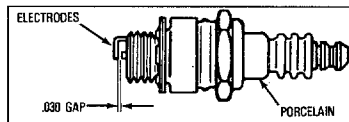

**Figure 17A: Idle Mixture Screw can be adjusted.**
- Locate the carburetor idle mixture screw (see Figure 17A). It is directly under the air filter and is black. **Do Not Adjust The Silver-Colored Screw.**